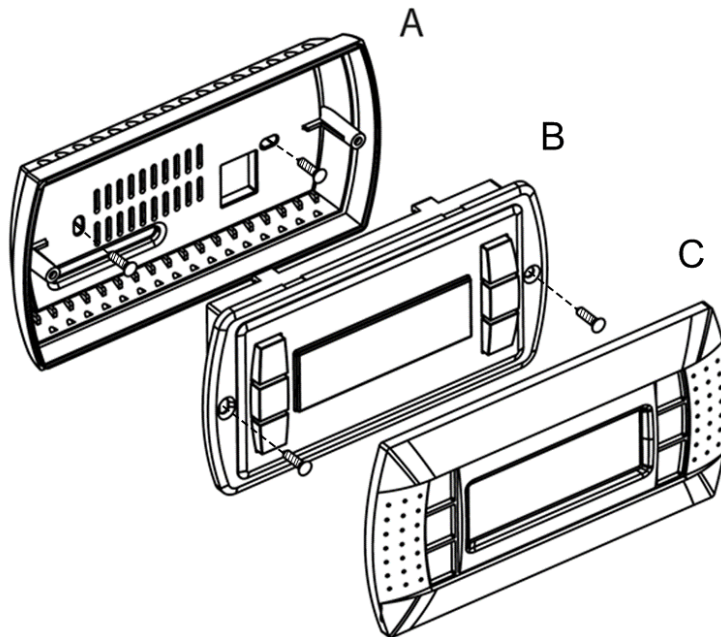

Figure 24 – Wall-Mounting
- The digital control consists of three main parts (A, B, C in Figure 24):